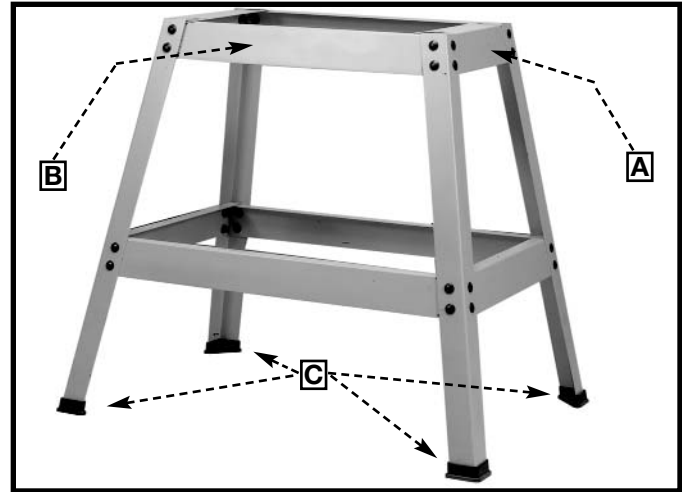

Fig. 4
Assembling this stand (Fig. 4) requires, in each instance, placing an M8x20mm carriage head bolt through a hole in the front of the leg, then through the corresponding hole in the brace. Place a 3/8" flat washer on the other end of the bolt, and loosely secure that connection with an M8 hex nut.
When you attach the upper braces, place the short upper braces (A) Fig. 4 on top of the long upper braces (B).
Attach a plastic foot (C) Fig. 4 on the bottom of each leg.